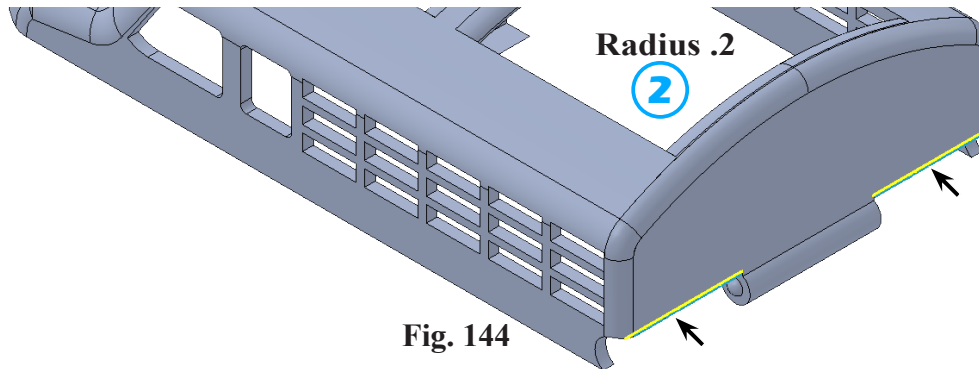

Fig. 144
② Radius  .2
click edges bottom rear at hinge (2), Fig. 144